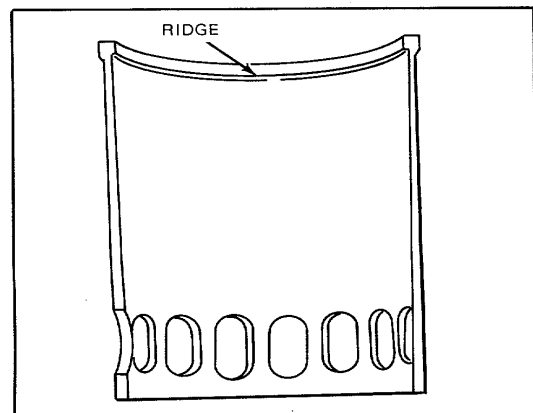

Figure 4. Cylinder Liner Ridge Due to Wear
2. To remove the ridge (Fig. 4) formed at the top by the piston ring travel. (Otherwise, interference with the travel of the new compression rings may result in ring breakage.)